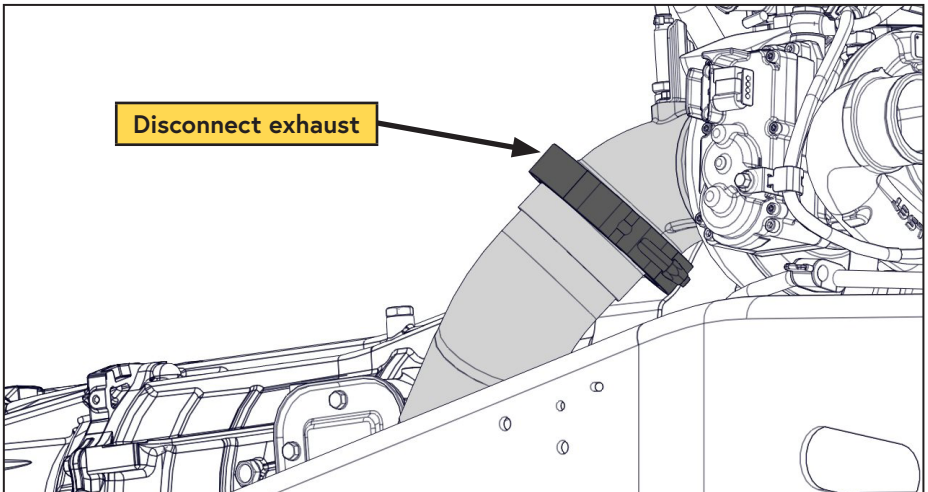

Figure 9 — Turbo outlet
- ☐ Disconnect the exhaust from the turbo outlet (Figure 9).